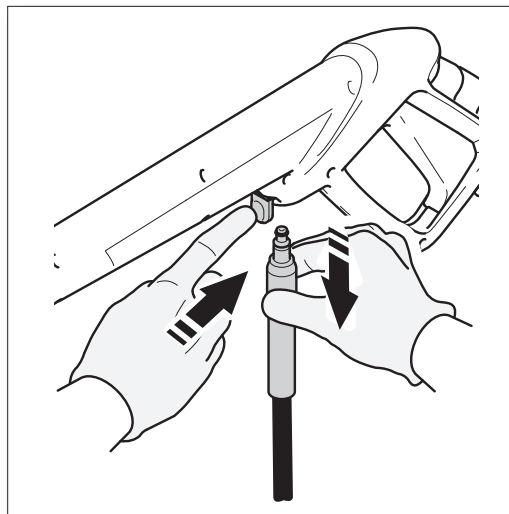

Fig. 6
- To release the hose from the spray gun, press the button on the underside of the gun toward the trigger guard. The hose will slide out from the connection (**Fig. 6**).